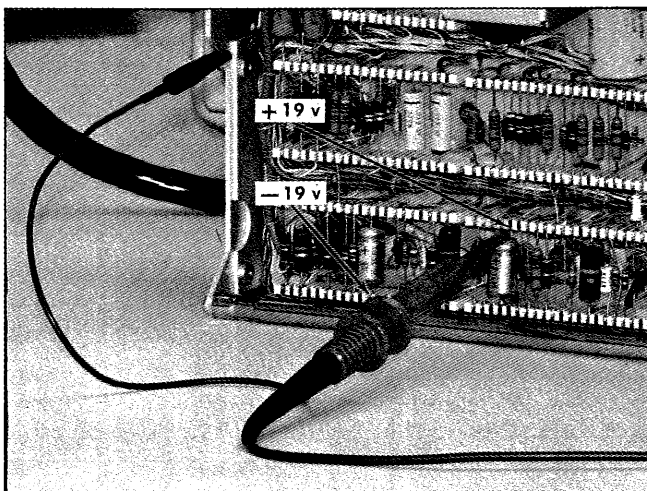

Fig. 5-4. Step 2 +19- and -19-volt power supply test points, left side of Type 3T4.
d. Connect the 1× probe tip to the positive end of C729, the +19-Volt test point shown in Fig. 5-4.
g. Set the Type W Vc RANGE switch to -11. Connect the 1× probe to the negative end of C730, the -19-Volts test point shown in Fig. 5-4. Set the Type W COMPARISON VOLTAGE (Vc) control to 1.900. Set the line voltage to 117 volts.